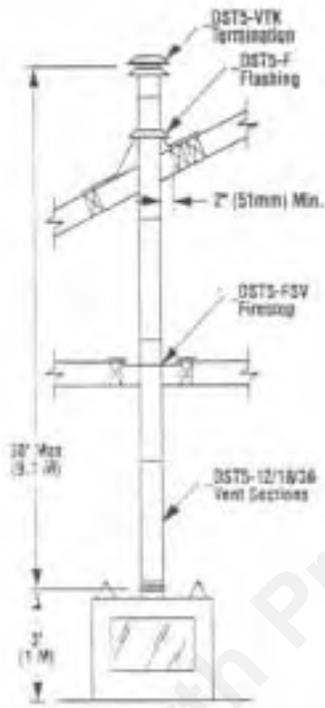
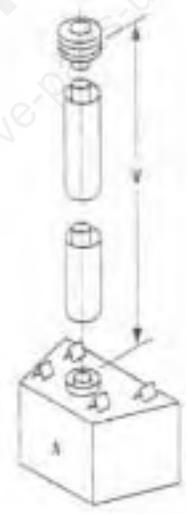

Figure 14
Figure 15 (Straight)
The Figures 14 through 16 and the Vertical Vent Table on page 8 illustrate the various vertical venting configurations that are possible for use with these top vent appliances. The maximum vertical height for the _DVT8 system is 30' (7.6 m) above the top of the appliance. Figures 15 and 16 along with Vertical Vent Table identify; (A) straight vertical system and (B) vertical system that employs two (2) 90° elbows. The Vertical Vent Table summarizes each system's minimum and maximum vertical and horizontal values that can be used to design and install the vent components in a variety of applications.